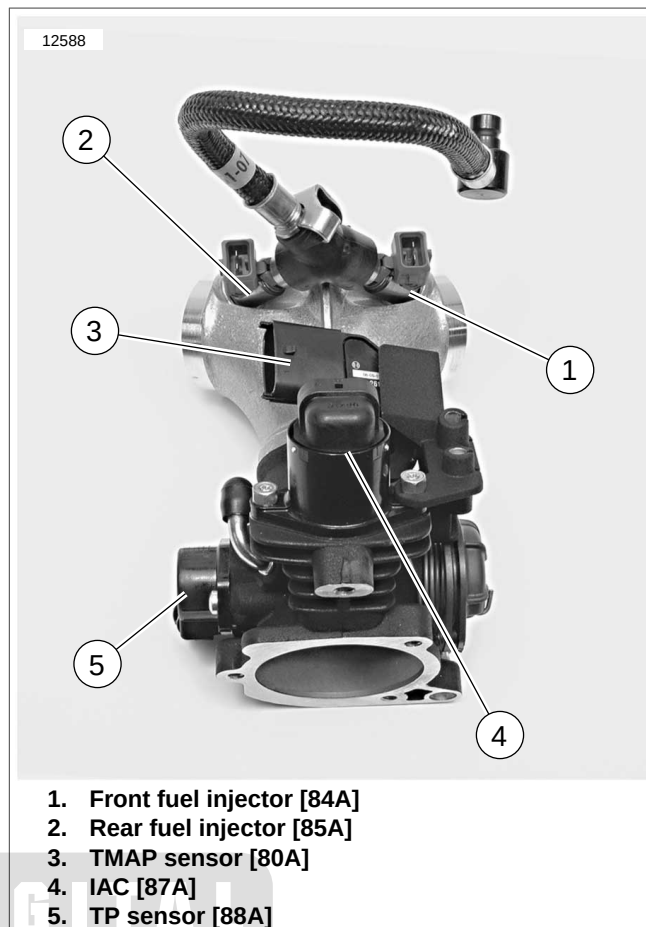

Figure 4-48. Induction Module Electrical Connectors
16. See Figure 4-48. Plug in the following connectors:
- a. Front fuel injector (1) connector [84],
- b. Rear fuel injector (2) connector [85],
- c. TMAP sensor (3) connector [80],
- d. IAC (4) connector [87],
- e. TP sensor (5) connector [88].